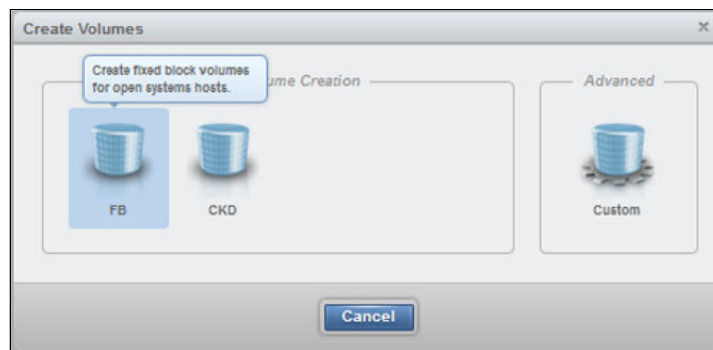

Figure 11-33 Create FB volumes by using the Quick Volume Creation option
Select any option to open the Create Volumes window (Figure 11-33).
1. On the Create Volumes window, click the **FB** icon, under Quick Volume Creation, as shown in Figure 11-33.